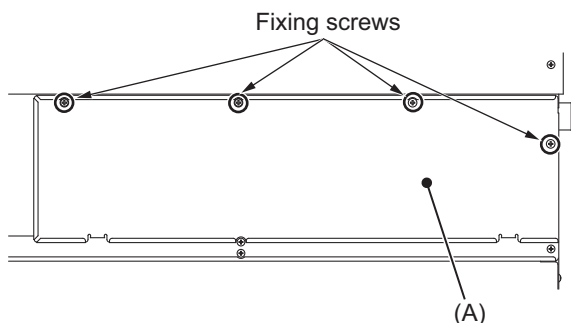

Fig.7
- (1) Remove the fixing screws (three) of the control box (A), and remove the cover. (Fig.7)